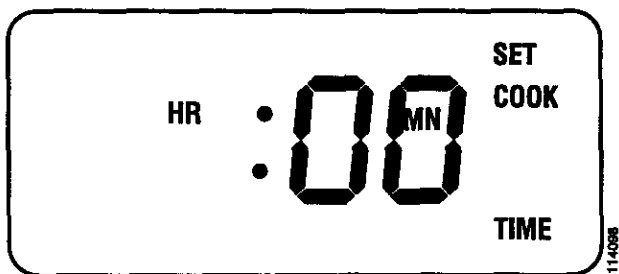

Figure 8.
6. Depress **Cook Time** button, a "beep" will sound and the display will show SET-COOK-TIME on the right hand side of the display, as shown in Figure 8.
8. Depress Cook Time button. A "beep" will sound and the display will show SET-COOK-TIME on the right hand side of the display as shown in Figure 8.
Depress Cook Time button. A “beep” will sound and the display will show SET - COOK - TIME on the right hand side of the display, see Figure 8. Then press either the plus (+) or minus (-) button, to the right of the display, to set the timer to the time interval desired. Maximum cooking time is 11 hours and 50 minutes (minimum cooking time is 1 minute).